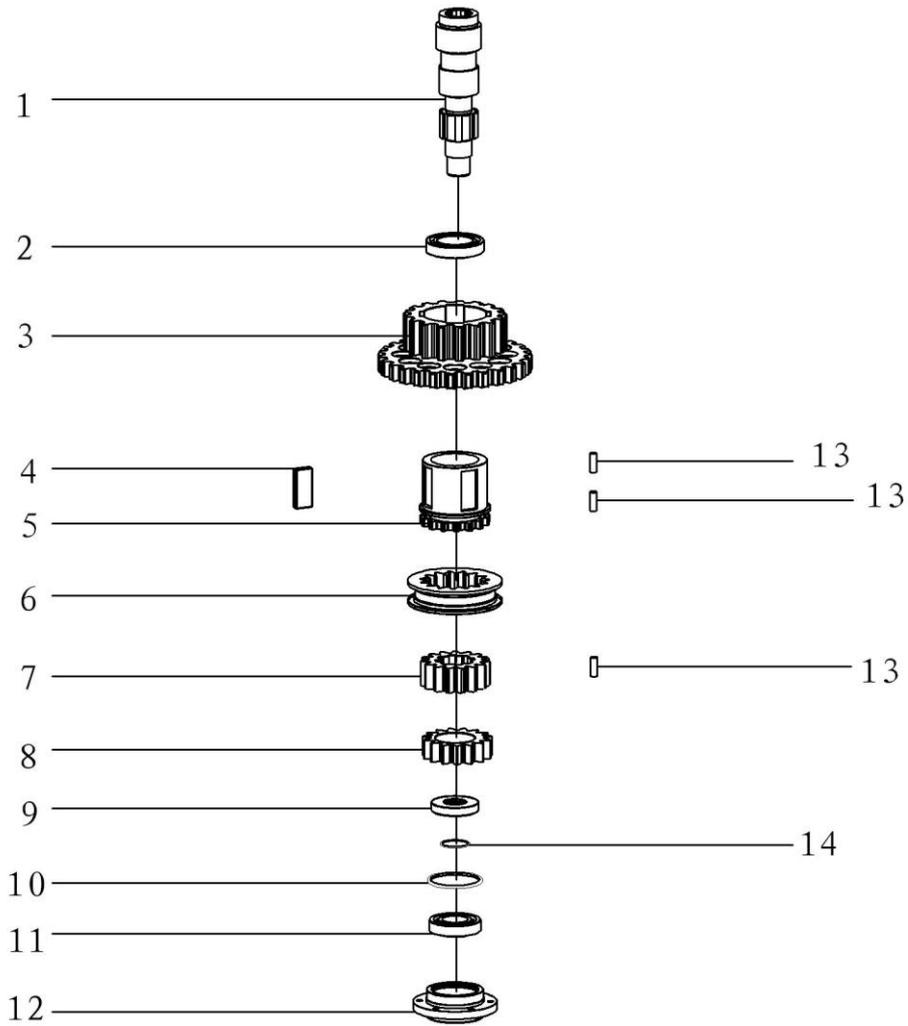

Fig8. Power input shaft assembly
7.2.6 Power input shaft assembly (Fig8. Table8)